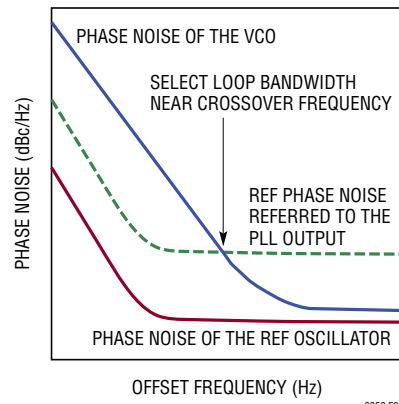

Figure 31. Selecting the PLL's Loop Bandwidth
2. Select the open loop bandwidth (BW). A stable loop requires BW to be less than f_{PFD} divided by 10. Because the LTC6950 has very low additive noise, in most applications it is desirable, if possible, to select a loop bandwidth near the crossover frequency of the VCO's phase noise and the output referred reference phase noise (see Figure 31). The *phase noise floor* of the reference, referred to the PLL output, is calculated as follows: